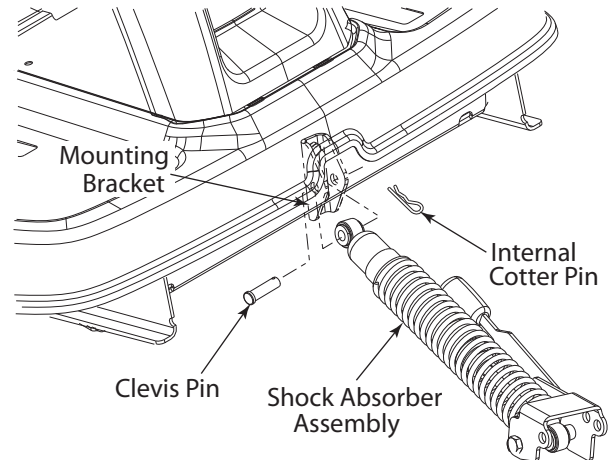

Figure 3-8
- Remove the internal cotter pin and withdraw the clevis pin from the body end (non piston end) of the shock absorber assembly. Refer to Figure 3-8.
- Working at the front of the tractor facing rearward, position the shock absorber assembly so that its pivot handle is to your right. Position the body end of the shock absorber between the two ears of the shock absorber mounting bracket on the front of the tractor. Refer to Figure 3-8.
- Align the shock absorber and mounting bracket holes and insert the clevis pin. Secure with the internal cotter pin. See Figure 3-8.